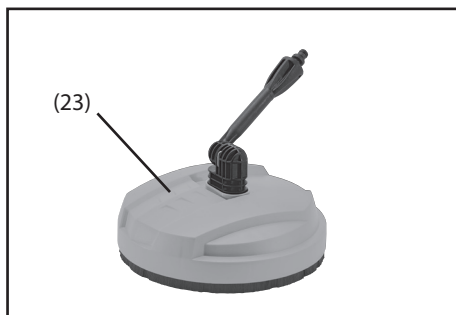

FIG.20
9.5 PATIO CLEANER ATTACHMENT (STOCK NO.03095 only) - FIG.20